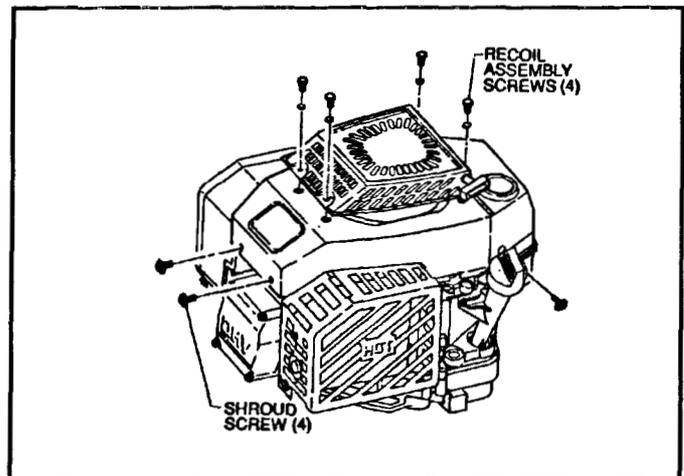

Figure 104
1. Install the blower shroud and secure it with four 3/8" hex, washer head cap screws. Torque the screws to 50 in lbs (5.8 Nm). See Figure 104.